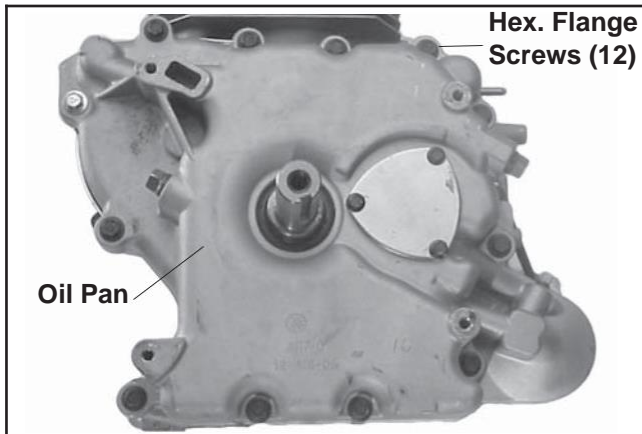

Figure 9-36. Removing Oil Pan.
2. Remove the twelve hex. flange screws securing the oil pan to the crankcase. See Figure 9-36.